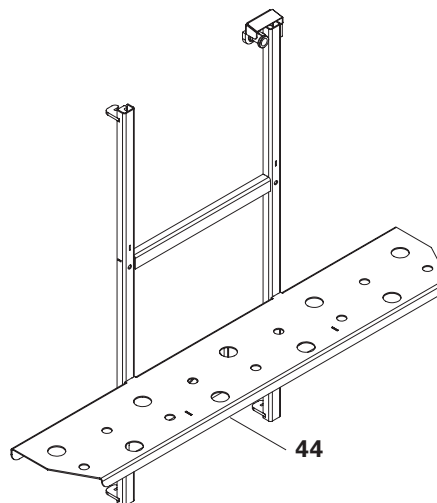

Fig. A4.06
The Tie Holder (44) is used for reliably storing MX Ties when moving the Heated Panels. (Fig. A4.06 + A4.07)